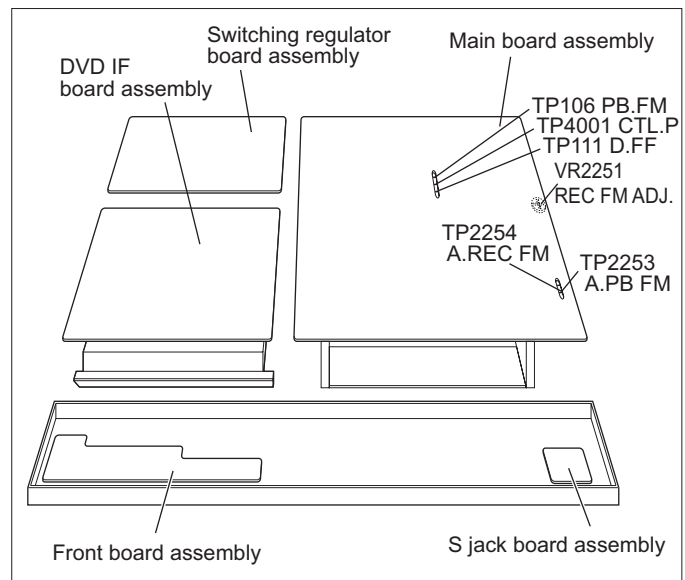

Fig.2-6-1a
- (1) Refer to the disassembly procedure and perform the disassembly of the major parts before removing the Mechanism assembly.
- (2) Remove the screws that fix the Mechanism assembly to the Chassis assembly. If any other screws are used to fix the boards, remove them also.
- (3) Remove the combined Mechanism and Main board assemblies.
- (4) If any other major parts are used, remove them also.
- (5) Connect the wires and connectors of the major parts that have been removed in steps (1) to (4). (Refer to Fig. 2-6-1a.)
- (6) Place the combined Mechanism, Main board and other board assemblies upside down.
- (7) Insert the power cord plug into the power outlet and then proceed with the diagnostics and servicing of the board assembly.